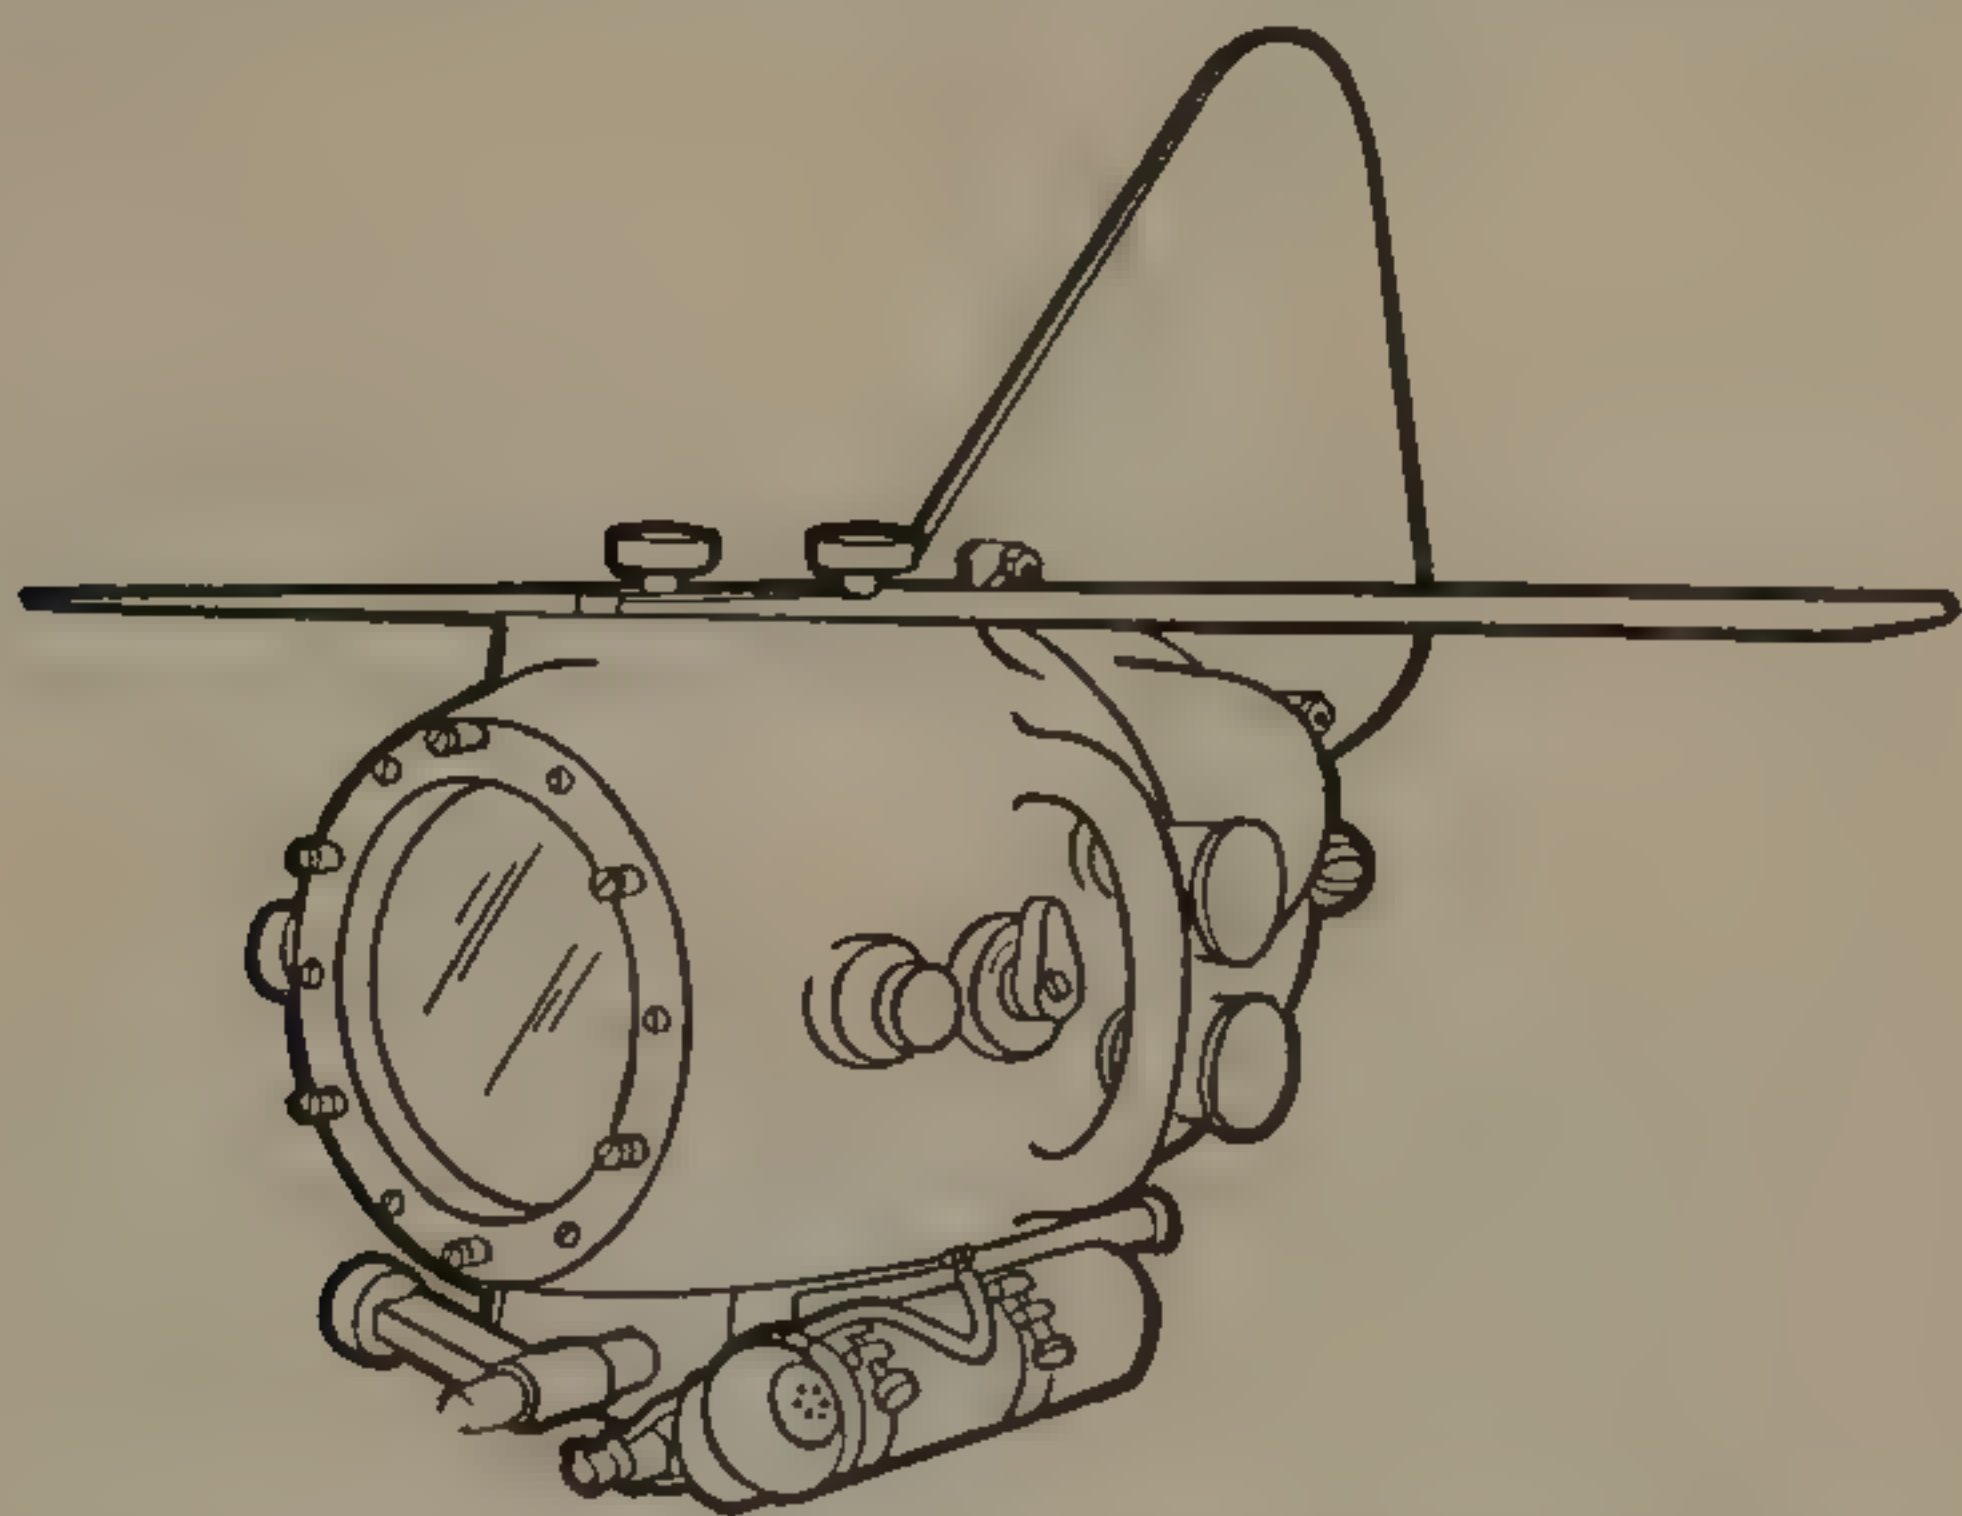

Fig. 14. Eclair Aquaflex underwater camera with stabilizing fins and special handgrips for underwater control.
- (iii) houses a Cameflex with special long-shaped magazine (see Figure 14), 6-8 volt motor, and adapted reflex viewfinder tube;